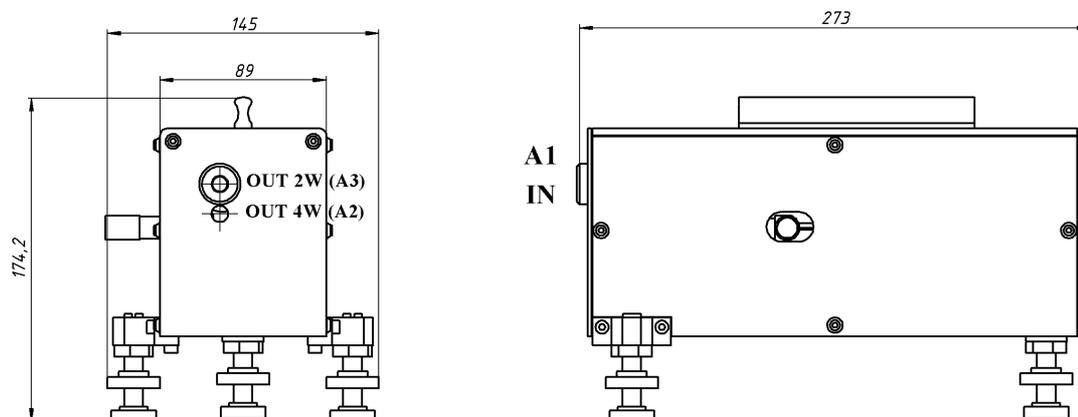

Fig.2. Outline drawing of SH generator
- 5) Attach the optical unit to the table using clamps. Remove the diaphragm A1 (Fig.2)..